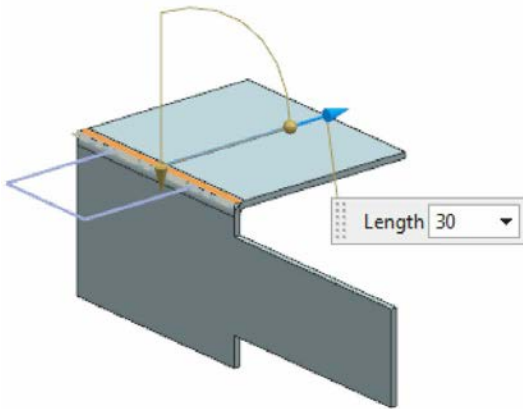

Figure 14-129 Preview of the top flange
2. Select the horizontal edge to create the flange, refer for Figure 14-129; the preview of the flange is displayed. Now, select the **At End** option from the **Width Option** drop-down list. Then, select the left endpoint of the top edge to locate the flange.
4. Enter **30** in the **Length** edit box of the **Flange Properties** rollout. Figure 14-129 shows the preview of the flange after modifying the width. Choose the **OK** button to create the flange.